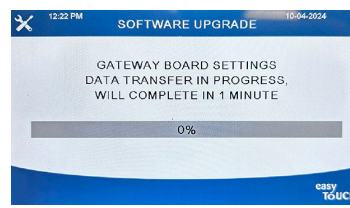

Figure 33A
4. Follow the onscreen instructions to load the settings and configuration (see Figure 33A & 33B).